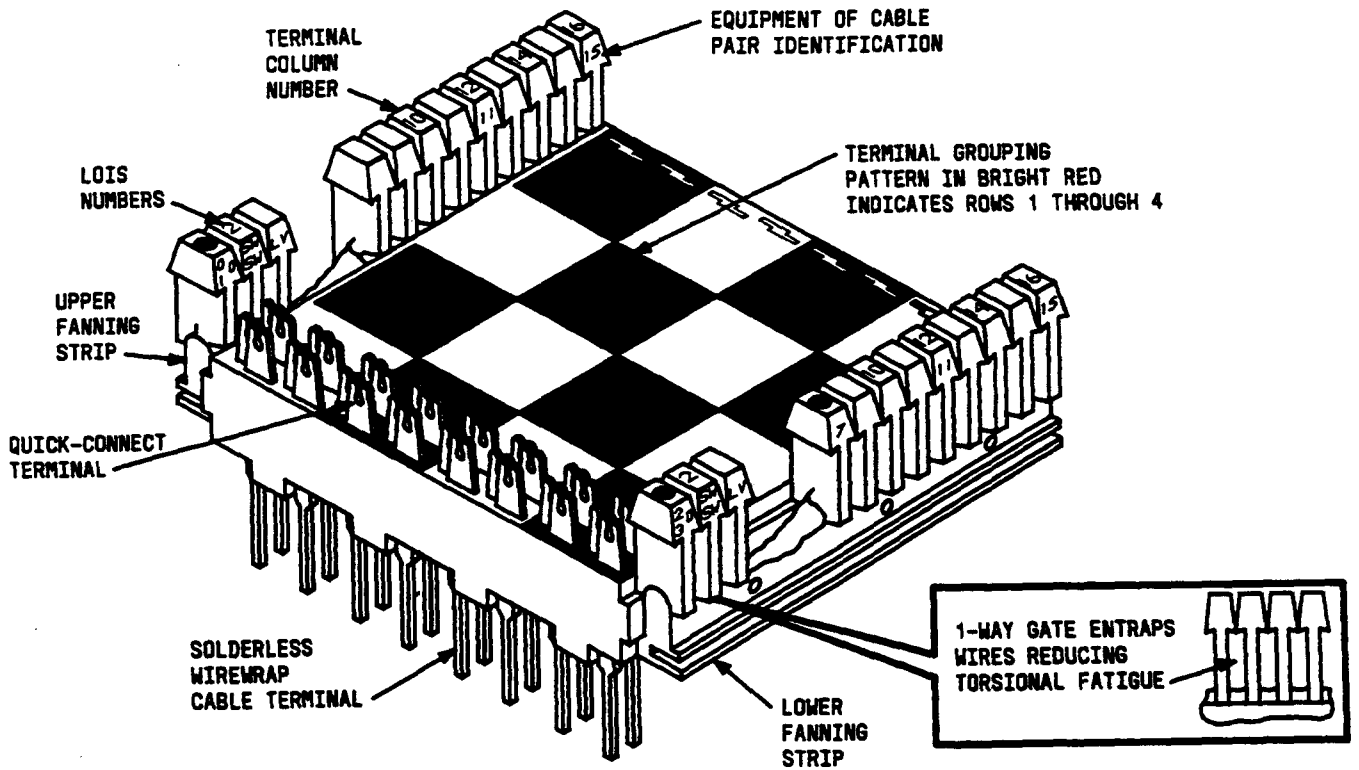
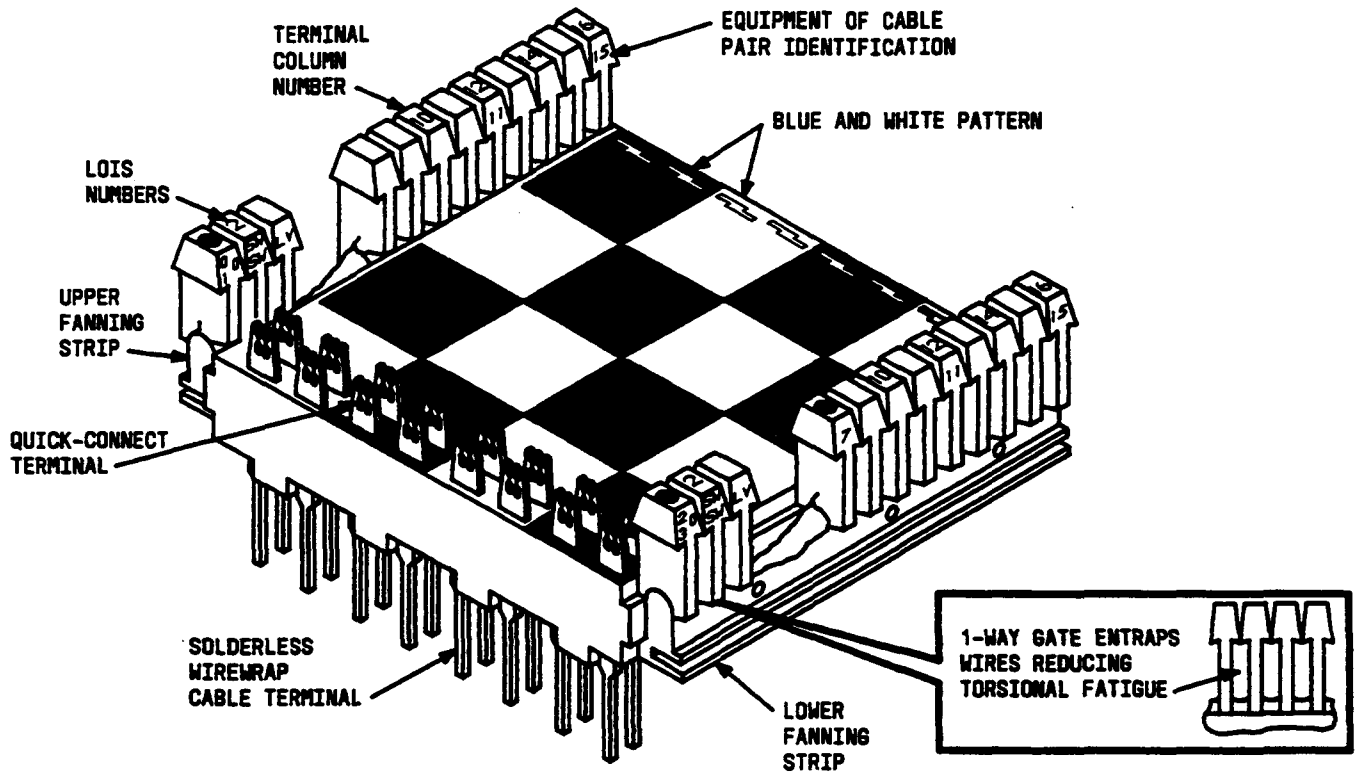

Figure 3—78-Type Connecting Block Features
Figure 5—112-Type Connecting Block Features
**2.07** Figures 3 and 4 show the 78-type connecting block features and the 4-beam terminal used on the block, and Figures 5 and 6 show the 112-type connecting block features and the 3-beam terminal used on the block.